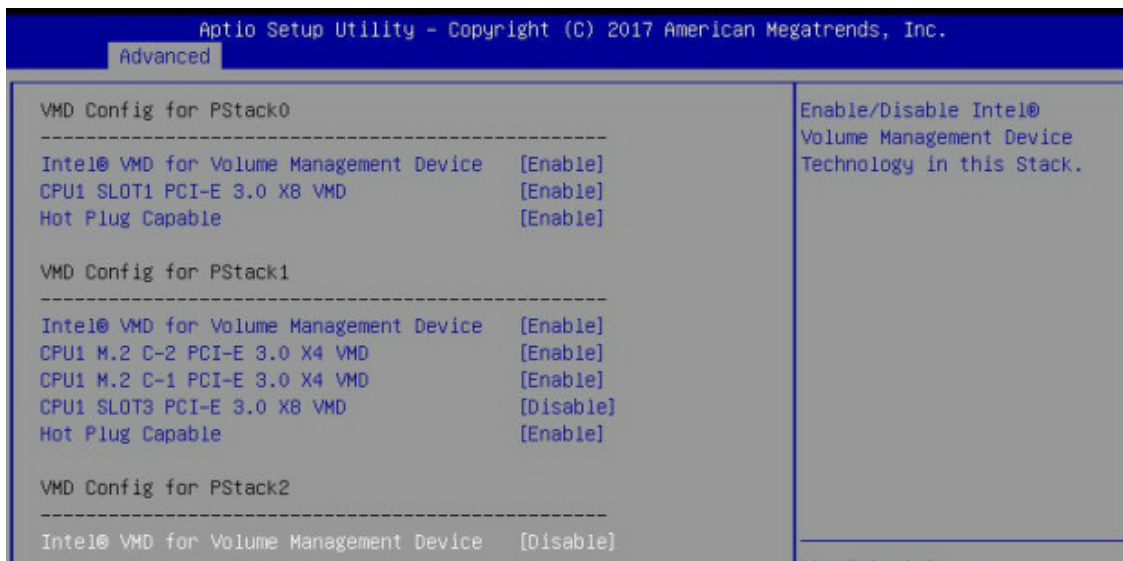
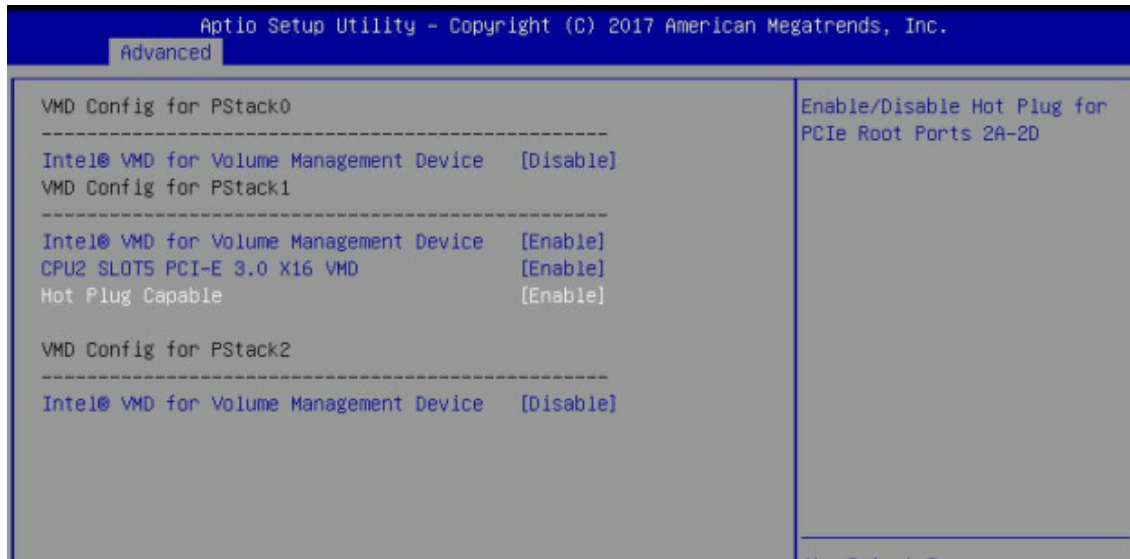

Figure 6-8. BIOS, Enabling CPU1 Example
Figure 6-9. BIOS, Enabling CPU2 Example
5. Repeat steps 3 and 4 for each PStack# on each CPU to be enabled or disabled. In this example, we enabled CPU1 Slot1 (Figure 6-8) and CPU2 Slot5 (Figure 6-9) (four U.2 form factor SSDs), as well as CPU1 M.2 C-1 and CPU1 M.2. C-2 (two M.2 form factor SSDs)